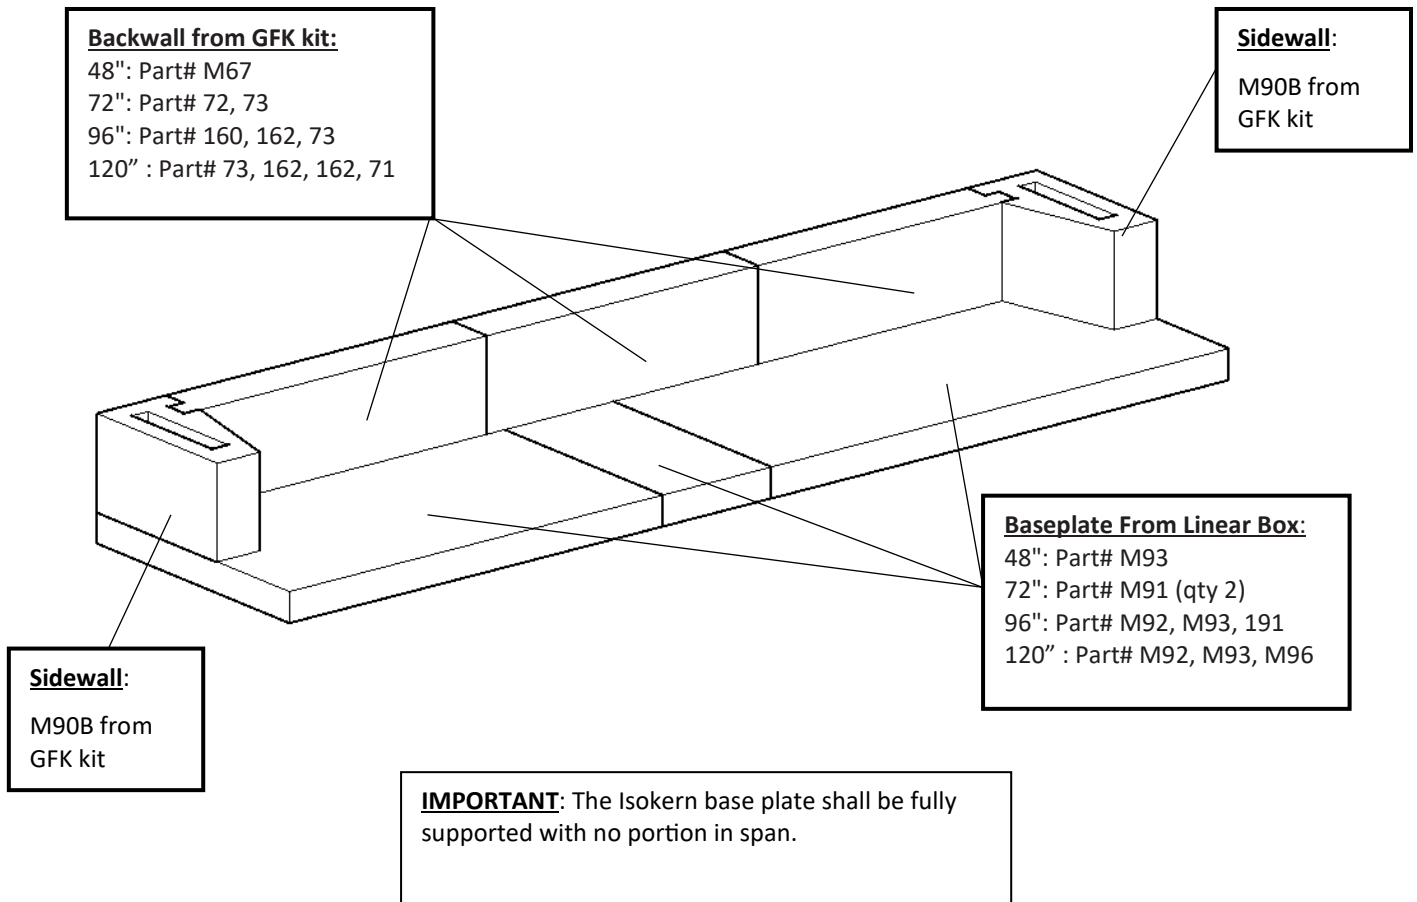

FIGURE 10
- 1) Apply Earthcore Adhesive to the joints between each baseplate part and ensure to set each base plate in a full bed of Earthcore Adhesive on a level support surface (**Figure 10**). See page 19 for information regarding the supporting floor system. Do not set the base plate so that it is in span. Refer to pages 6 - 17 for firebox and part dimensions.
- 2) Set the first course of the firebox side walls and back walls into place (**Figure 10**).